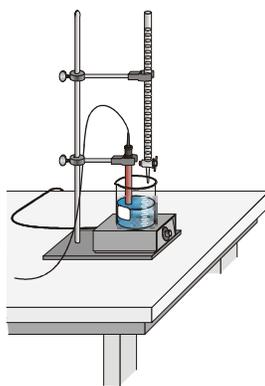

Figure 1
6. Set up a ring stand, buret clamp, and 50.0 mL buret to conduct the titration (see Figure 1). Rinse and fill the buret with the H₂SO₄ solution.
7. Use a utility clamp to connect the Conductivity Probe to a ring stand, as shown in Figure 1. Position the Conductivity Probe in the Ba(OH)₂ solution and adjust its position so that it is not struck by the stirring bar.